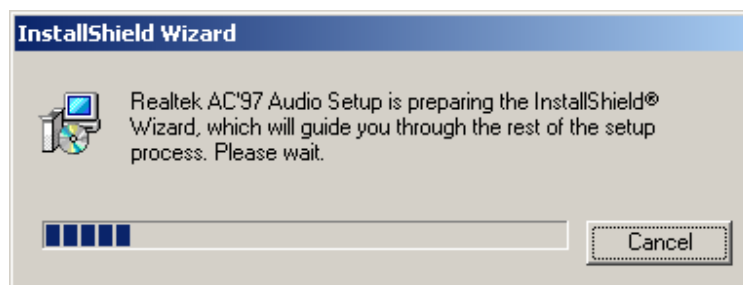

Figure 7-43: Preparing Setup Screen
Step 8: The **InstallShield Wizard** is prepared to guide the user through the rest of the process (Figure 7-43).